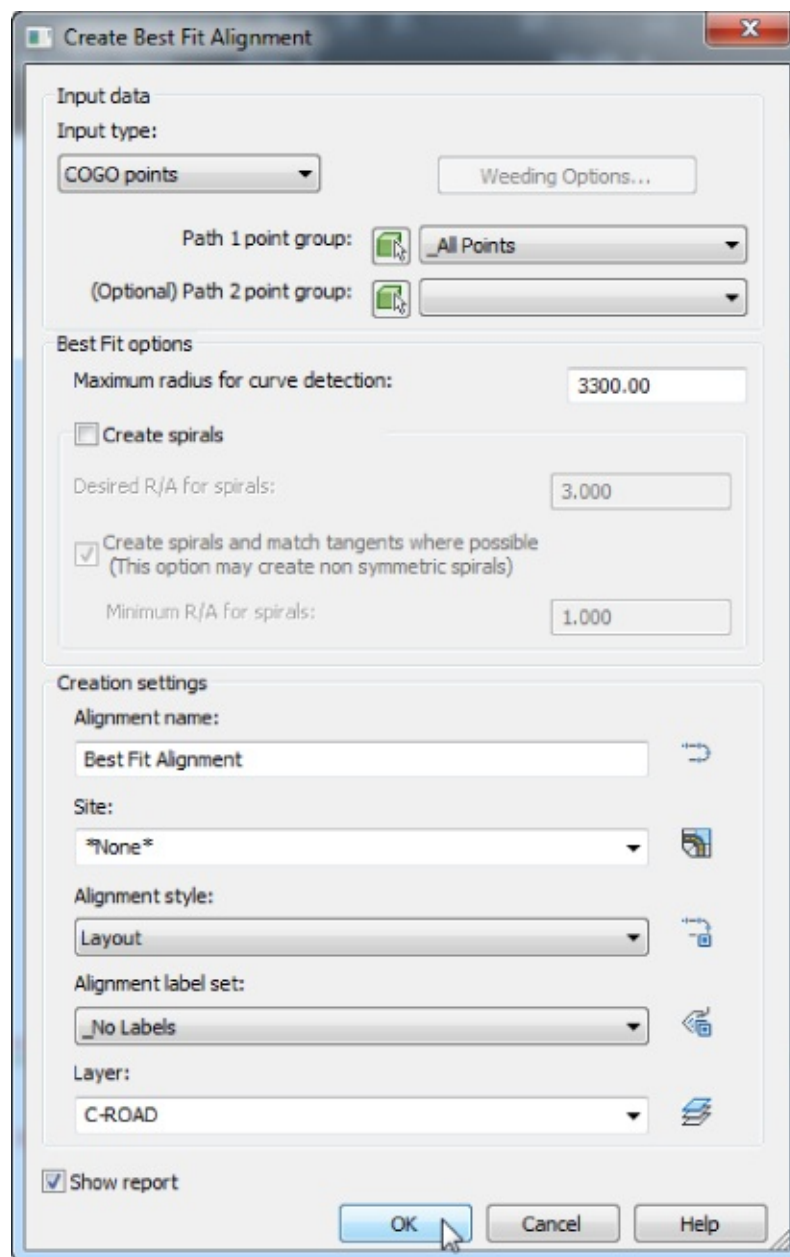

Figure 6.19 The Create Best Fit Alignment dialog
23. Verify that Alignment Style is set to Layout, Alignment Label Set is set to _No Labels, and the Show Report box is checked, as shown in Figure 6.19. Then click OK to accept all the other defaults.